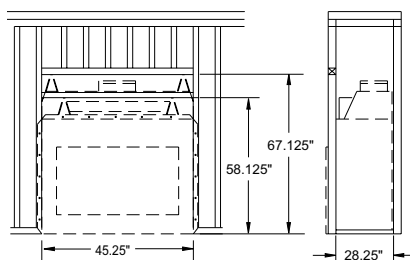

Figure 1 - Framing Dimensions
1. The location must allow for proper clearances (see Figures 1 and 2).
1. Frame opening for fireplace using dimensions shown in Figures 1 and 2.